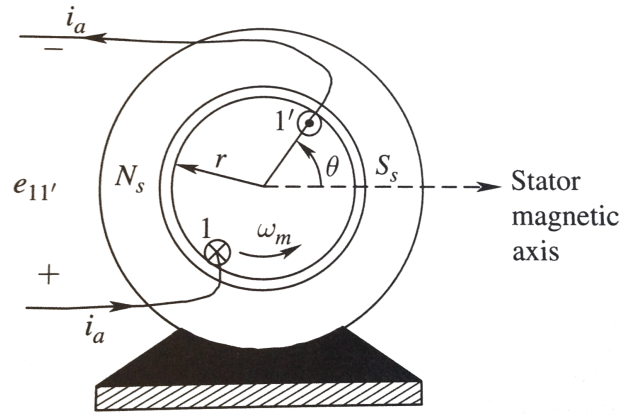

Figure 2: Problem 6.1
Assume the field distribution produced by the stator in the machine shown in Fig.2 to be radially uniform. The magnitude of the air gap flux density is  $B_s$ , the rotor length is  $l$  with radius  $r$ , and the rotational speed of the motor is  $\omega_m$ .
b) The sign of the emf is positive when a positive charge accumulates on the side indicated with "+" sign on Fig.2. The direction where the positive charge accumulates is given by the cross-product:
Therefore, in the  $\theta$  position shown in Fig.2, the direction of the positive charge, shown in Fig.4 is toward the "+" sign and the emf is positive.
c) The torque acting on the coil in the position shown in Fig.2 is given by: